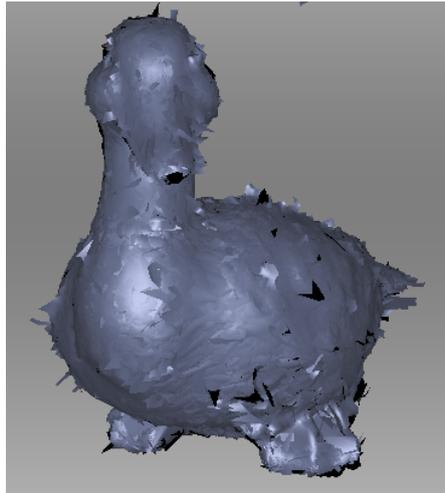

Figure 82: Alignment result.
3. Click *Align*. The result should be as Figure 82 depicts. If you are dissatisfied with this result, click  and follow the recommendations in Manual Rigid Alignment with Points.